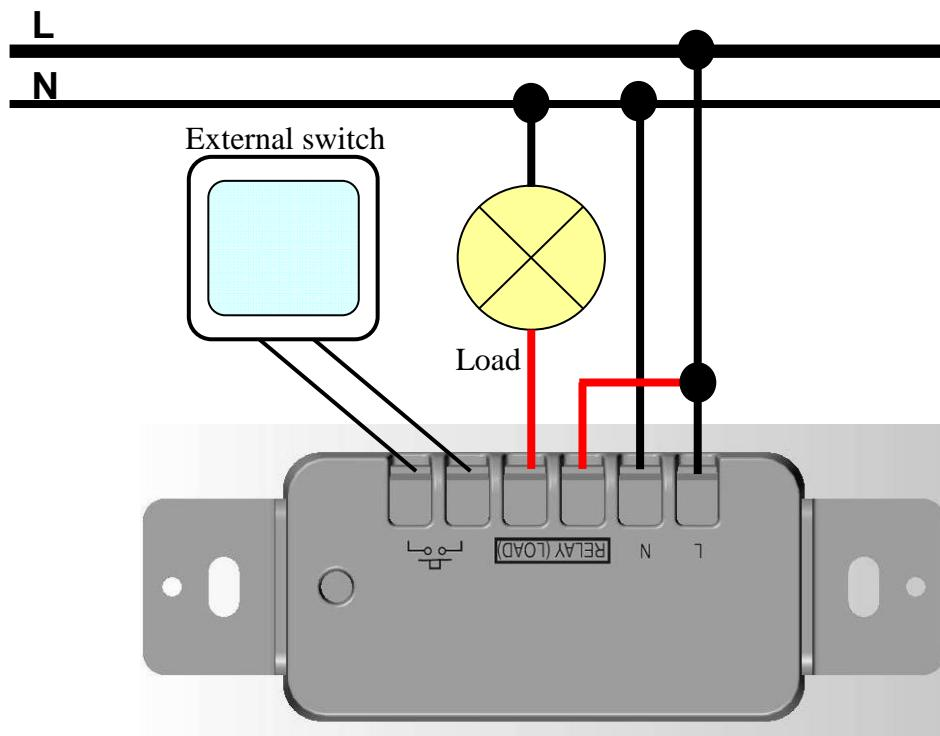

Figure 1
Step 2 **Identifying your wiring application:** refer to figure 1 and 2
Step 3 **Connecting wires:** refer to figure 1 or 2 and connect the wires with correct symbols. Use at less 75°C copper wire only and the stripped wire end's length must be 9mm. The tightening torque must be 3.5lb-in. (Make sure all wires are firmly fixed at all terminals)